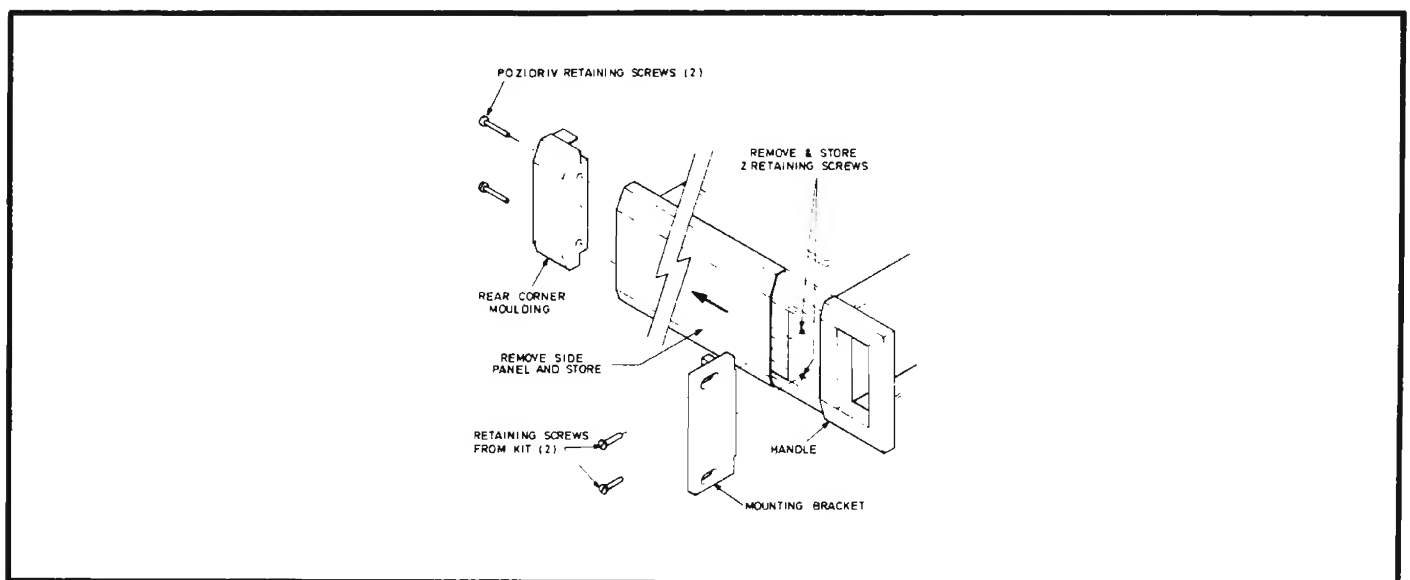

Fig. 3.1 Fitting the Fixed Rack Mounting Kit
3.4.1 The kit contains a pair of mounting brackets and four screws. The method of fitting the kit is shown in Fig. 3.1. The fitting procedure is as follows: